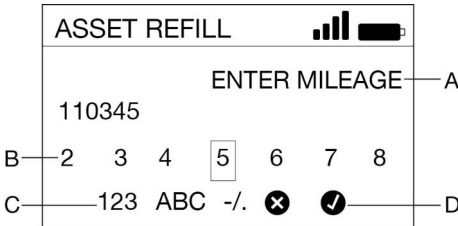

FIG. 28
- If the asset is configured to require reference data entry, enter the requested data using the keypad (FIG. 28).